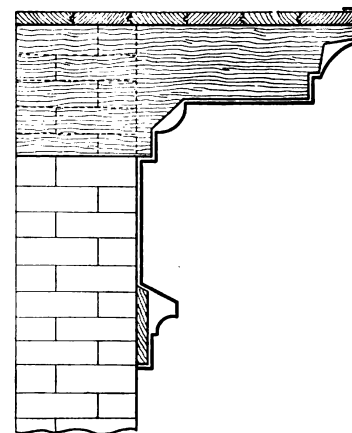

Fig. 3.—Wooden Lookout Placed on Top of Wall.
and through the wall, being secured by means of the nut. In the front elevation the piece of upright wood is indicated by B', the bolt by D' and the lookout by A'. To secure the foot molding to the wall, a strip of board (C) of the proper width can be nailed to the wall and the foot molding nailed to this. If the mortar joints in the brick work are not adapted to holding the nails, it may be found necessary to cut out the mortar and drive in wooden plugs into which the nails can be driven. In some cases it may be found convenient to remove an entire brick, its place being filled with a piece of wood of similar size, the same being held in place by means of mortar or cement. Another method of securing the lookouts is shown in Fig. 3. The top of wall is removed so as to allow the lookouts to be placed in position, when they can be set in brick in the usual manner.